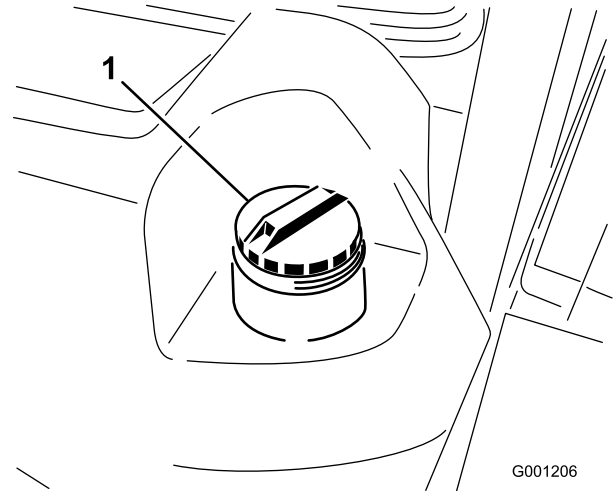

Figure 24
2. Remove cap from the fuel tank (Figure 24).